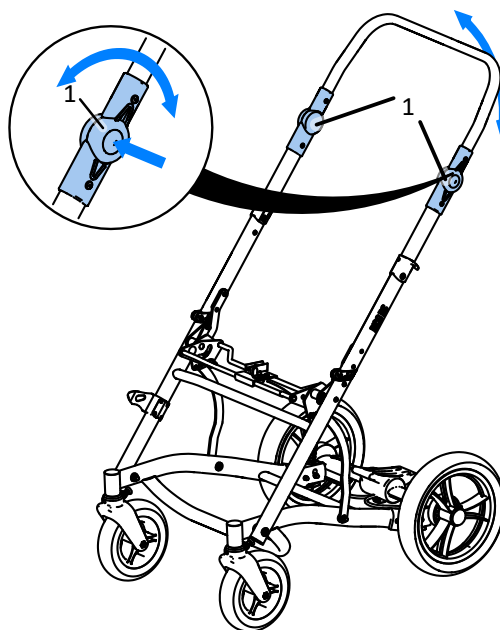

Fig. 11
Simultaneously push the regulating buttons (1) on both sides of the stroller, and then set the push handle on the desired height. After setting the desired position of the push handle, move the push handle up and down in order to hear a characteristic click of the blockade Fig. 11